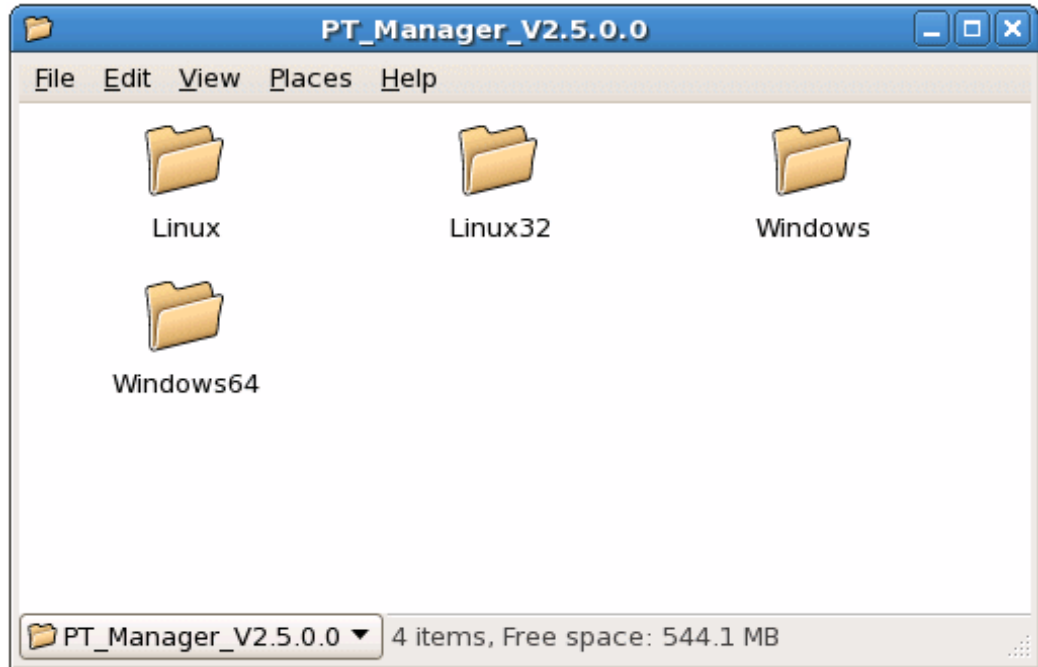

Figure 5-8 Four available folders for the installed operating system
3. Double-click **PT\_Manager\_V2.5.0.0**. Open the folder that is suitable for your Linux server (Figure 5-8).